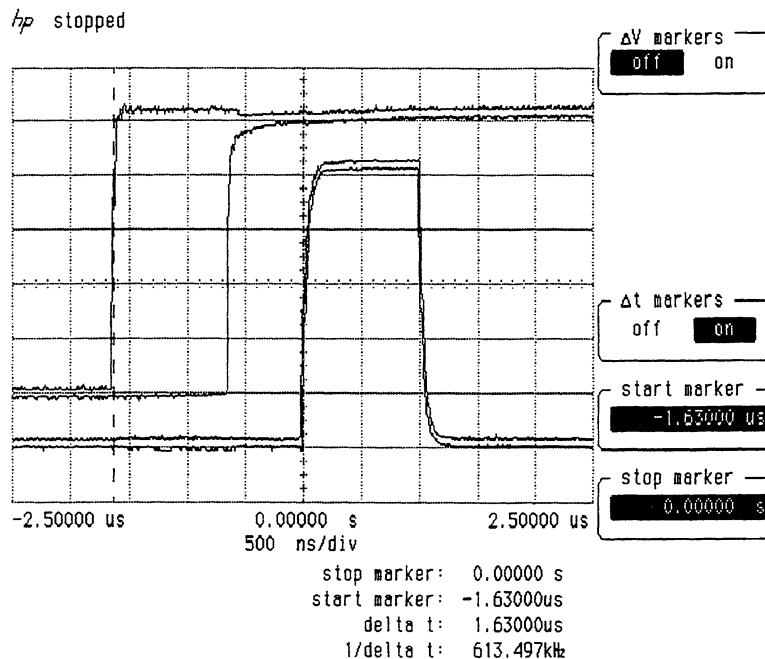

Figure 3-3. Oscilloscope Display of Minimum and Maximum Gate Delay Values
7. On the oscilloscope, press **start marker**. Use the knob to position the start marker on the upper trace on the right side of the oscilloscope display. Refer to Figure 3-3.